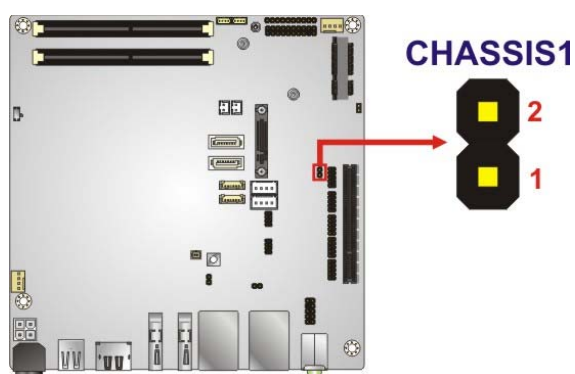

Figure 3-7: Chassis Intrusion Connector Location
- CN Location:** See **Figure 3-7**